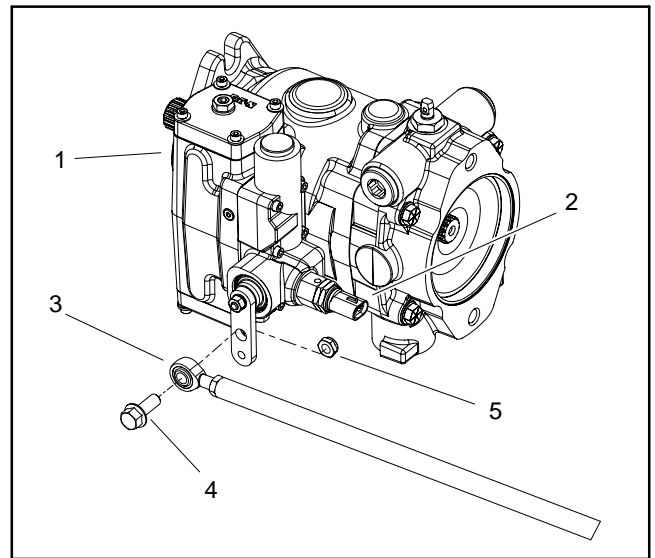

Figure 61
3. Remove traction rod from control arm on piston pump by removing lock nut and flange head screw (Fig. 61).
4. Disconnect wire harness connector from neutral switch on traction pump (Fig. 61).
2. Carefully lower piston pump into the machine and position it to the engine adapter plate. Support pump to prevent it from falling while installing two (2) cap screws and washers securing piston pump to engine adapter plate. Torque screws from **77 to 93 ft-lb (105 to 126 N-m)**.
4. Position traction rod to control arm on piston pump and secure with flange head screw and lock nut (Fig. 61).
8. Disconnect engine run solenoid electrical connector to prevent engine from starting. Prime pumps by turning ignition key switch to crank engine for ten (10) seconds. Repeat cranking procedure again.